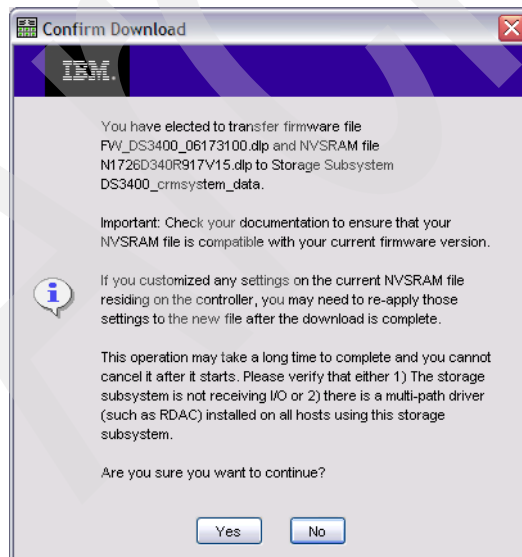

Figure 14-20 Confirm Download
5. Click **Transfer** to submit the new microcode to the storage subsystem. The Confirm Download window appears (Figure 14-20). Read it and click **Yes** to continue.